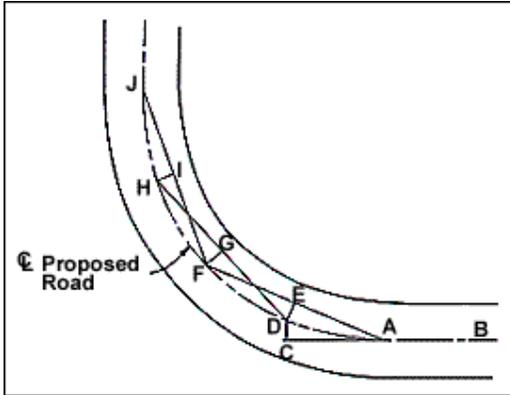

Figure 2. The stick method of creating a horizontal curve is suited to use on difficult terrain. (Redrawn from Figure 2.4-2, Darrach et al. 1981)
Using a string or tape the length of the radius, find the center of the curve by trial and error (Figure 2). Do this by moving back and forth along the straight road segments (tangents) leading into and out of the curve with the tape at a right angle to the road until a common point, the center, is found. Now scribe an arc along the ground marking the curve. Place stakes at suitable intervals to mark the curve starting at the point of curvature (PC) and ending at the point of tangency (PT)
Grade may be maintained around the curve by running a line with the desired slope for the distance of the curve. This line will often be away from the center line of the road due to the topography (Figure 2).